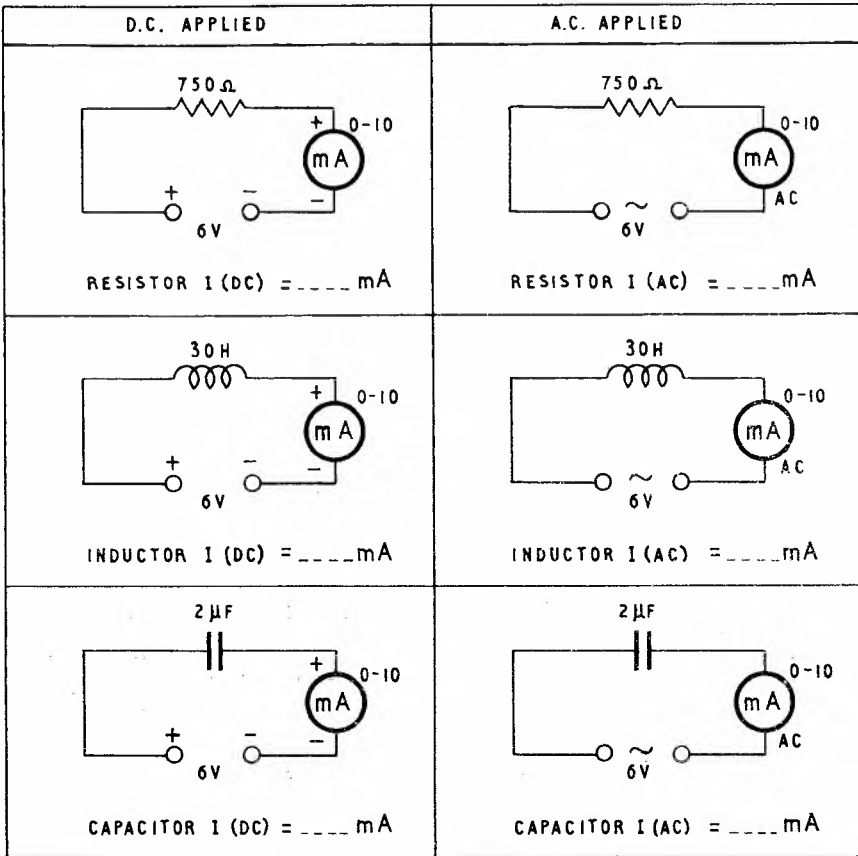

FIG. 1.
- STEP 1. Connect the resistor in series with the D.C. milliammeter across the 6V D.C. supply. Note and record the current in Fig. 1.